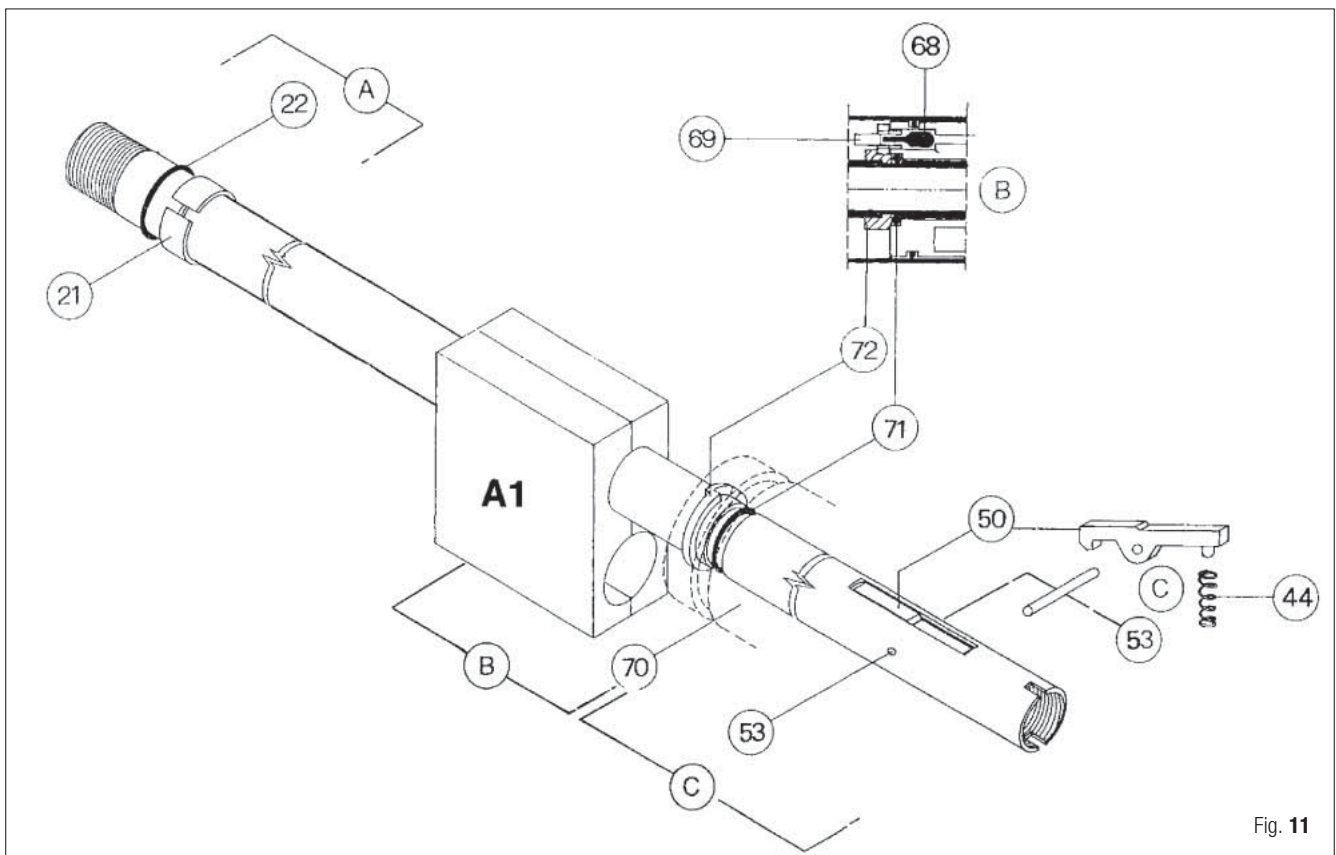

Fig. 11
1. Place the barrel in the 16 mm. jaws (A-1) (Fig. 3) and clamp into vise (Fig. 11).
2. Install the barrel bushing (21) in the groove of the barrel with tool A-9, being sure that the side of the bushing with the smaller diameter is towards the handle of the gun. (Fig. 11-A).
3. Place O-ring (22) against the barrel bushing (21) with tool A-9 (Fig. 11-A).
4. Using tool A-7, install the snap ring (72) into the groove of the barrel, with the square tab facing the front (muzzle end) of the barrel (Fig. 11-B).
5. Place o-ring (71) in the groove of the barrel next to the snap ring (72) with tool A-7 (Fig. 11-B).
9. Slide the power regulating block into position over O-ring (71). Rotate the snap ring and/or power regulating block as needed to align the one-way housing (69) with the snap ring seat. (Fig 11-B).
10. Install spring (44) onto catch hook (50) (Fig. 11-C).
11. Install catch hook (50) with spring (44) attached, into the barrel and align the hole in the catch hook with the holes in the barrel and install the catch hook pin (53) (Fig. 11-C).
13. Place O-ring (20) into the groove of the handle (41).